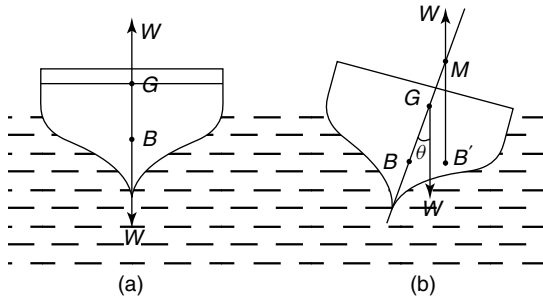

Figure 21.13
For most ships and boats the centre of buoyancy (B) of the vessel is usually below the vessels' centre of gravity (G), as shown in Figure 21.13(a). When this vessel is subjected to a small angle of keel (θ), as shown in Figure 21.13(b), the centre of buoyancy moves to the position B' , where